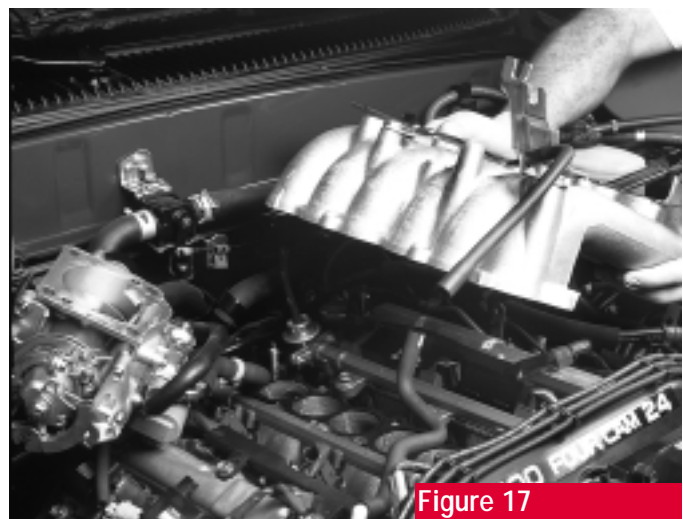

Figure 17
24. Remove the lower manifold (**figure 17**) and save the factory nuts, washers and two short bolts, as they will be reused.